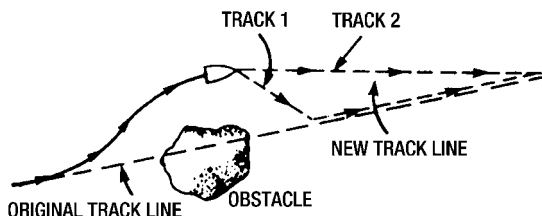

Figure 2: Restarting the course line
- after passing the obstacle, you can steer your vessel back to the original track line by using the cross-track error display, and simply continue to the waypoint (Track 1 in Figure 2)
- after passing the obstacle, if you don't need to return to your original track line, you can go directly to the next waypoint by using the 972's restart function (Track 2 in Figure 2)